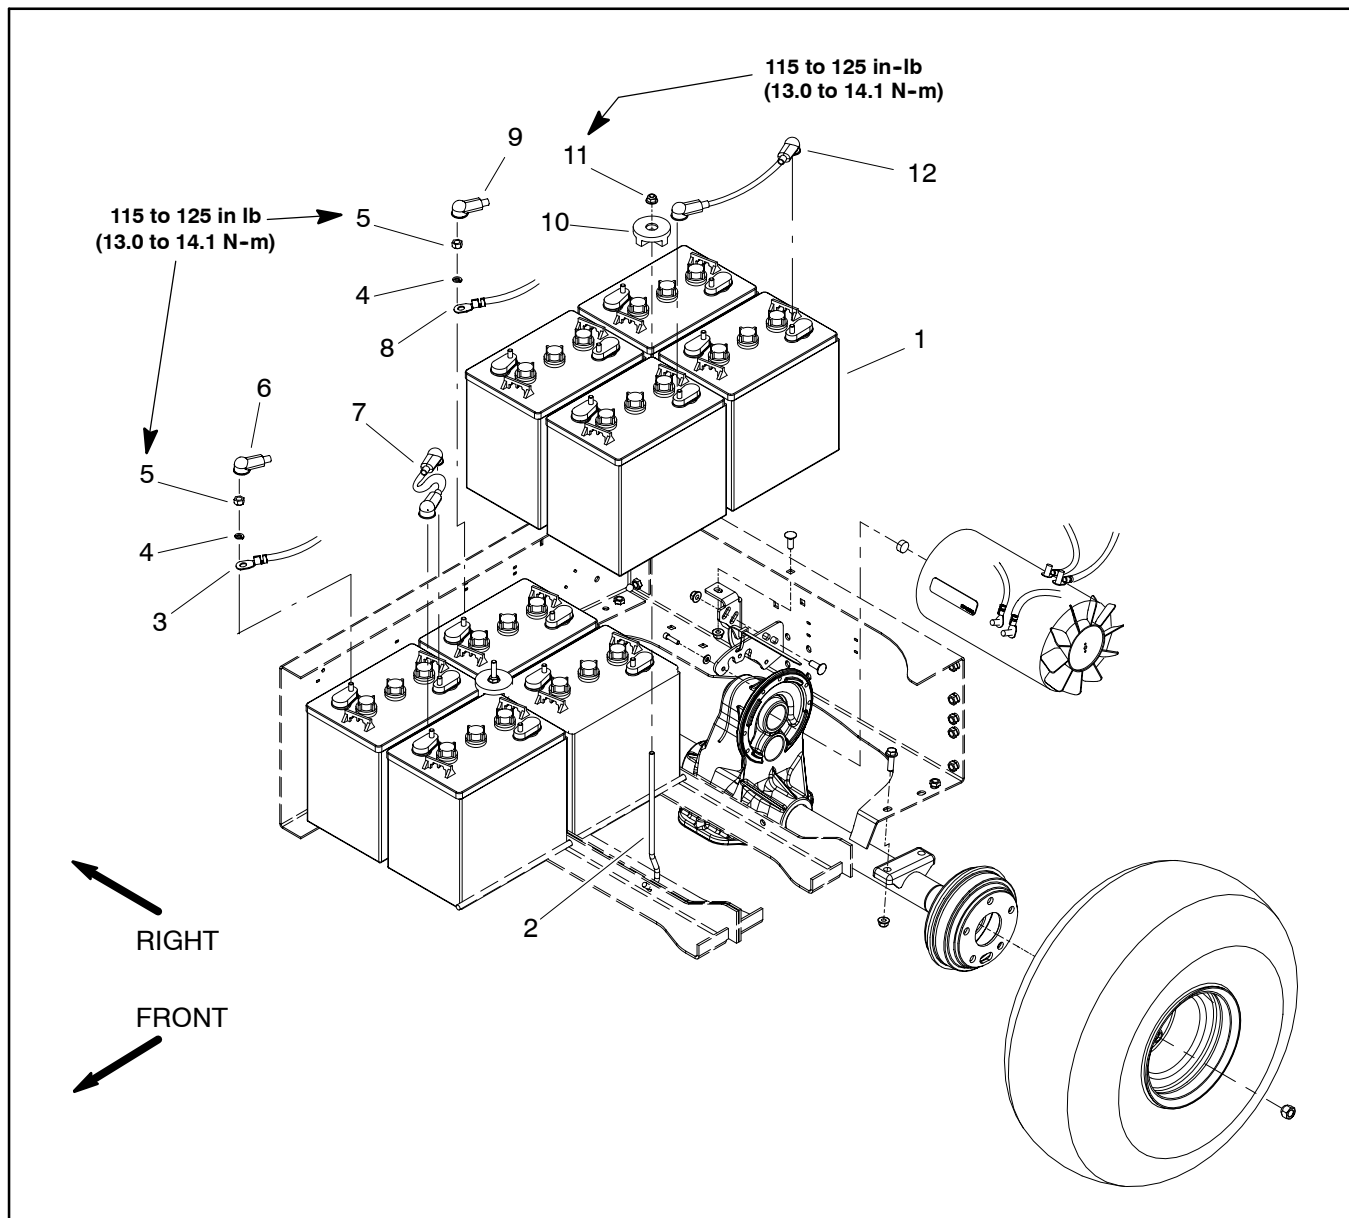

Figure 42
Battery Removal (Fig. 42)
Battery Installation (Fig. 42)
5. Install all but one of the battery cables used to connect battery pack including the positive (red) cable and negative (black) cable from vehicle (Figures 42 and 44). Make sure that cables are connected to correct battery terminal noting battery polarity. Install lock washer and nut on each battery terminal. Torque nuts from **115 to 125 in-lb (13.0 to 14.1 N-m)** to secure cables.